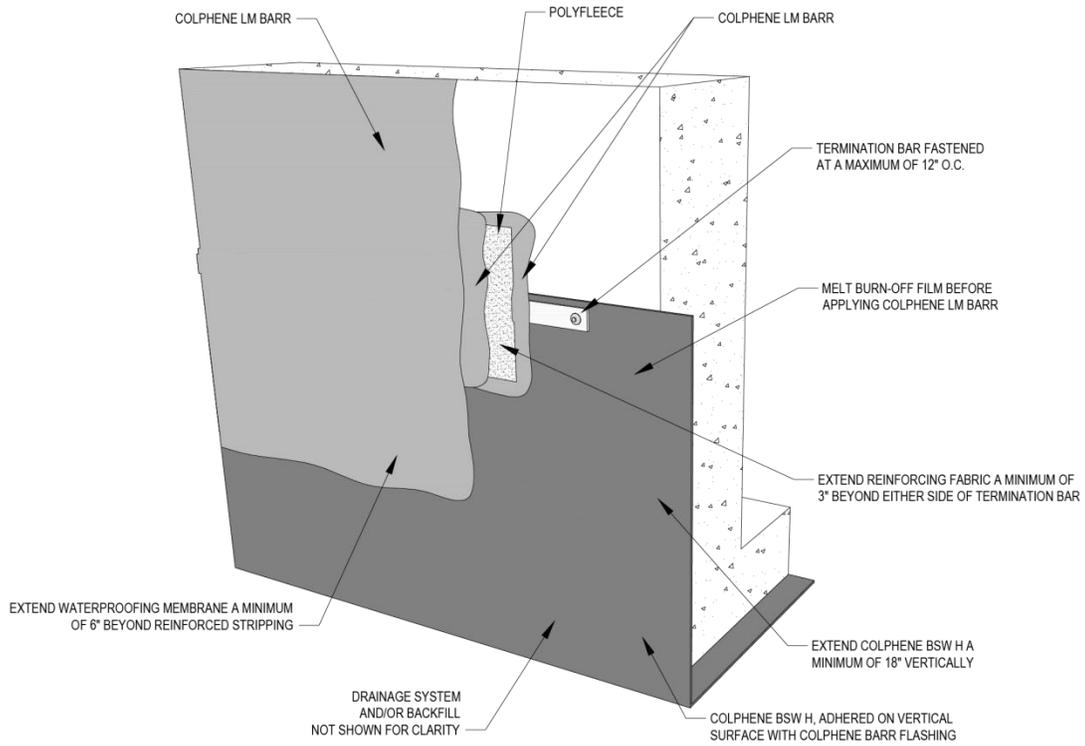

Figure 4.2a Non-reinforced Tie-In to Blindsiding Waterproofing Membrane
- COLPHENE® LM BARR waterproofing materials used for vertical, positive-side foundation walls may be applied at tie-ins to SOPREMA walls and waterproofing materials. Refer to Figures 4.2a and 4.2b.